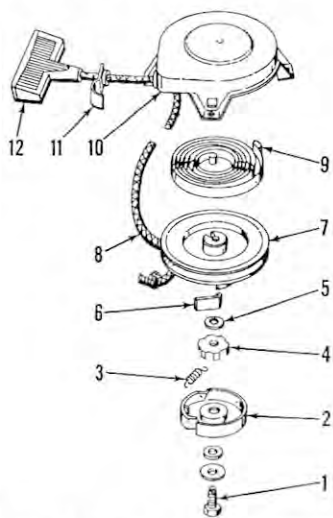
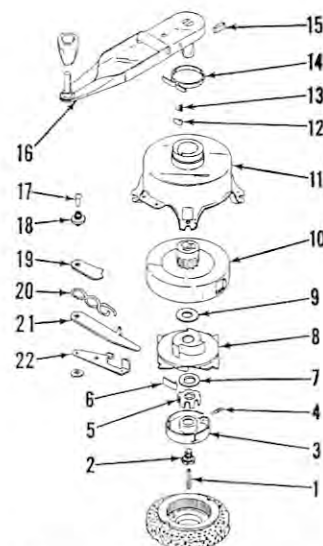

Fig. T10 — Exploded view of recoil starter typical of that used on most models.
Fig. T11 — Exploded view of impulse starter used on some models.
Recoil starters similar to the one shown in Fig. T10 are used on most models. The impulse starter shown in Fig. T11 may be used.
To overhaul the recoil starter, remove and invert the assembly. Pull starting rope until notch in rope pulley is aligned with rope eyelet in housing. Hold pulley with notch so aligned by grasping pulley and housing firmly; and feed rope into inside of housing until enough slack is obtained to unwind two turns of rope from pulley groove. Slowly release pulley and allow recoil spring to completely unwind. Remove pulley retaining screw (1—Fig. T10) and withdraw pulley assembly, making sure recoil spring (9) remains in recess in pulley. When reassembling, pre-load the recoil spring (9) two full turns when handle (12) is resting against rope guide (11).
To disassemble the impulse starter shown in Fig. T11, first pull release lever (21) and allow spring to unwind; then, unbolt and remove starter assembly from power head. Remove centering pin (1) and brake screw (2). NOTE: Brake screw (2) has a left-hand thread. Note the position of spring (4) with relation to cover (8), while lifting off retainer (3). When retainer is removed, check to see that brake (5) is friction tight on hub of retainer (3) and check starter dog (6) for wear. Spring and keeper assembly (10) is available only as an assembly and should not be disassembled. Clean the parts thoroughly, renewing any which are damaged or worn. Lock dog spring (13) should hold lock dog (12) firmly away from wall of hub in housing (11). Coat the parts with a light, waterproof grease when reassembling, and make sure that lock dog (12) engages notches in spring and keeper assembly (10).